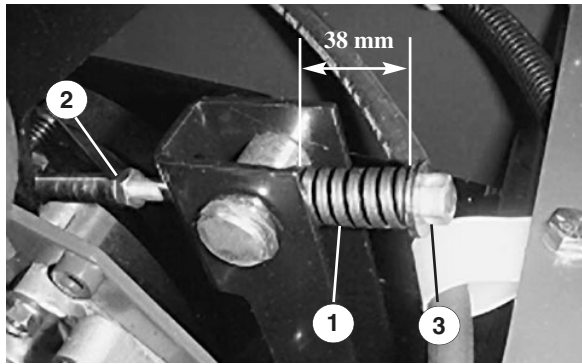

Figure 31
2. Loosen the tensioning rod jam nut (Fig. 31).
3. Use a ½" wrench to tighten or loosen the belt-tensioning spring (Fig. 31). Adjust the spring to a length of 1-½" (38 mm).
3. Using a ½" wrench, loosen the belt tensioning spring (Fig. 31) completely.
5. Install the new power take-off belt and re-tension the pulley spring to 1-½" (38 mm) (Fig. 31).
6. Tighten the jam nut (Fig. 31) and close the hood.